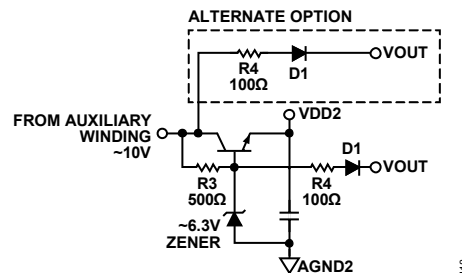

Figure 19. Recommended Circuit to Guarantee Hiccup Mode
- ▶ When VDD2 is powered through auxiliary winding or another configuration, when a short circuit occurs on the output terminals, the auxiliary winding is not shorted and maintains a positive voltage above the VDD2 UVLO threshold. To enter hiccup mode, the following circuit is recommended, as shown in Figure 19. The circuit operates as follows: when the output voltage goes low due to a short circuit, the D1 diode turns on, which pulls the base of the bipolar junction transistor (BJT) low, shutting off VDD2. The system then enters hiccup mode, as described in the Remote System Reset section.